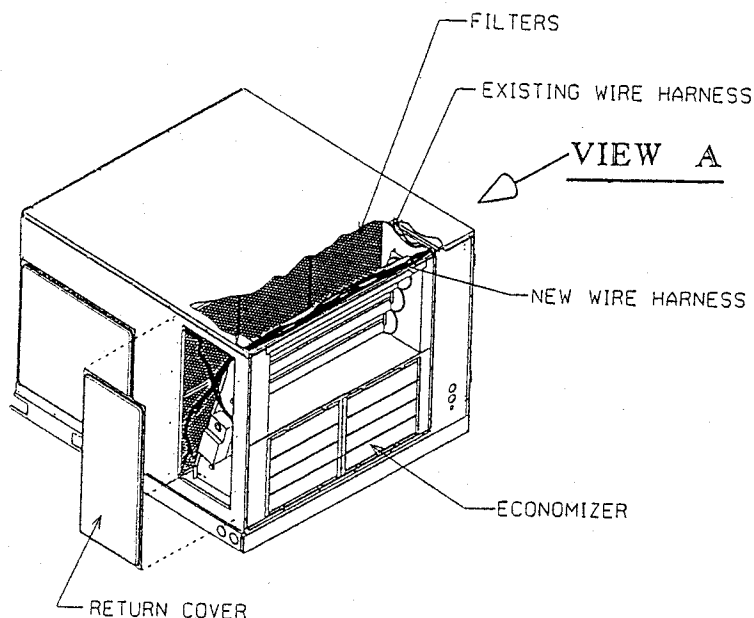

FIGURE 1
1. REMOVE RETURN COVER. (See Fig. 1)